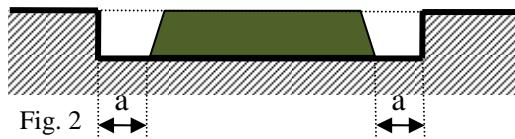

Fig. 2
- Beyond this distance, the device can be recessed (see figure 2), but not deeper than the height of the case